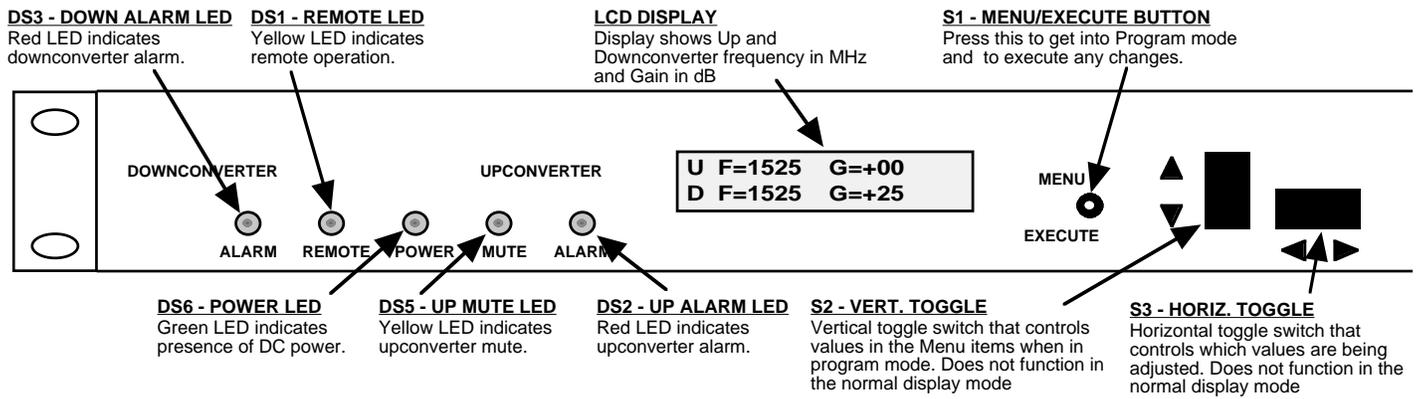

Figure 2.2 Model 2017-05A Front Panel Controls and Indicators
- 8.) Be sure DS6 (green, DC Power) is on and DS2 (red, Alarm) is off (Figure 2.2).
- 7.) Be sure DS6 (green, DC Power) is on and DS2 (red, Alarm) is off (Figure 2.2).
Alarm indications appear on the LEDs (see figure 2.2).